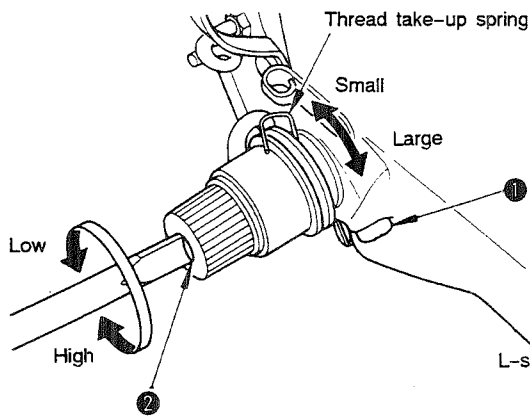
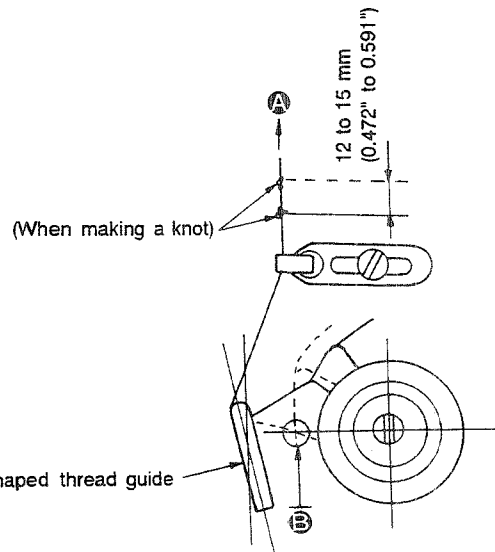

Fig. 5-11-1
Fig. 5-11-2
Stroke: Pull the needle thread in direction **A**. Moving distance of the needle thread should be 12 (0.472") to 15 mm (0.591") from the start to the end position. (Fig. 5-11-2)
<p>1) Adjusting the stroke Loosen setscrew ①, insert a screwdriver into tension controller No. 2 ②, and turn it to adjust the stroke.</p> <p>2) Adjusting the tension Be sure that setscrew ① has been securely tightened. Insert a screwdriver into tension controller No. 2 ②, and turn it to adjust the tension. (Fig. 5-11-1)</p> <p>(Caution) When sewing with a thinner thread such as #50 or a greater count, adjust the stroke of the thread take-up spring so that it is 8 (0.315") to 10 mm (0.394").</p>	<ul style="list-style-type: none"> ○ If the stroke exceeds the specified range: The thread remaining on the needle will be short, resulting in the thread slipping off the needle at the sewing start. ○ If the stroke is inadequate: Needle thread breakage may occur when sewing with a thin thread. <p>(Caution)</p> <ol style="list-style-type: none"> 1. If the thread take-up spring comes in contact with the L-shaped thread guide, the thread take-up spring will not return to the start position before thread trimming, and the thread remaining on the needle will be short. In this case, adjust the position of the L-shaped thread guide so that the thread take-up spring does not come in contact with the L-shaped thread guide at section ③. At this time, take care not to damage the thread path. (Fig. 5-11-2) 2. If the tension of the thread take-up spring is higher than that of the tension controller No. 2, the thread take-up spring will fail to operate, resulting in needle thread take-up failure.